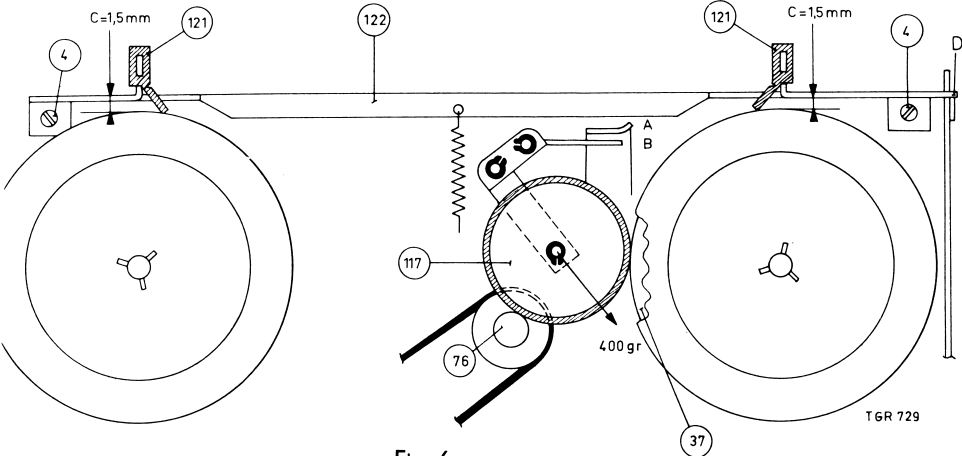

Fig. 6
Switch on the apparatus in "play-back" position; the drive-wheel, item 117, should then run between the reel and the pulley, item 76, with a force of 400 gr. \pm 15 %, see Fig. 6.